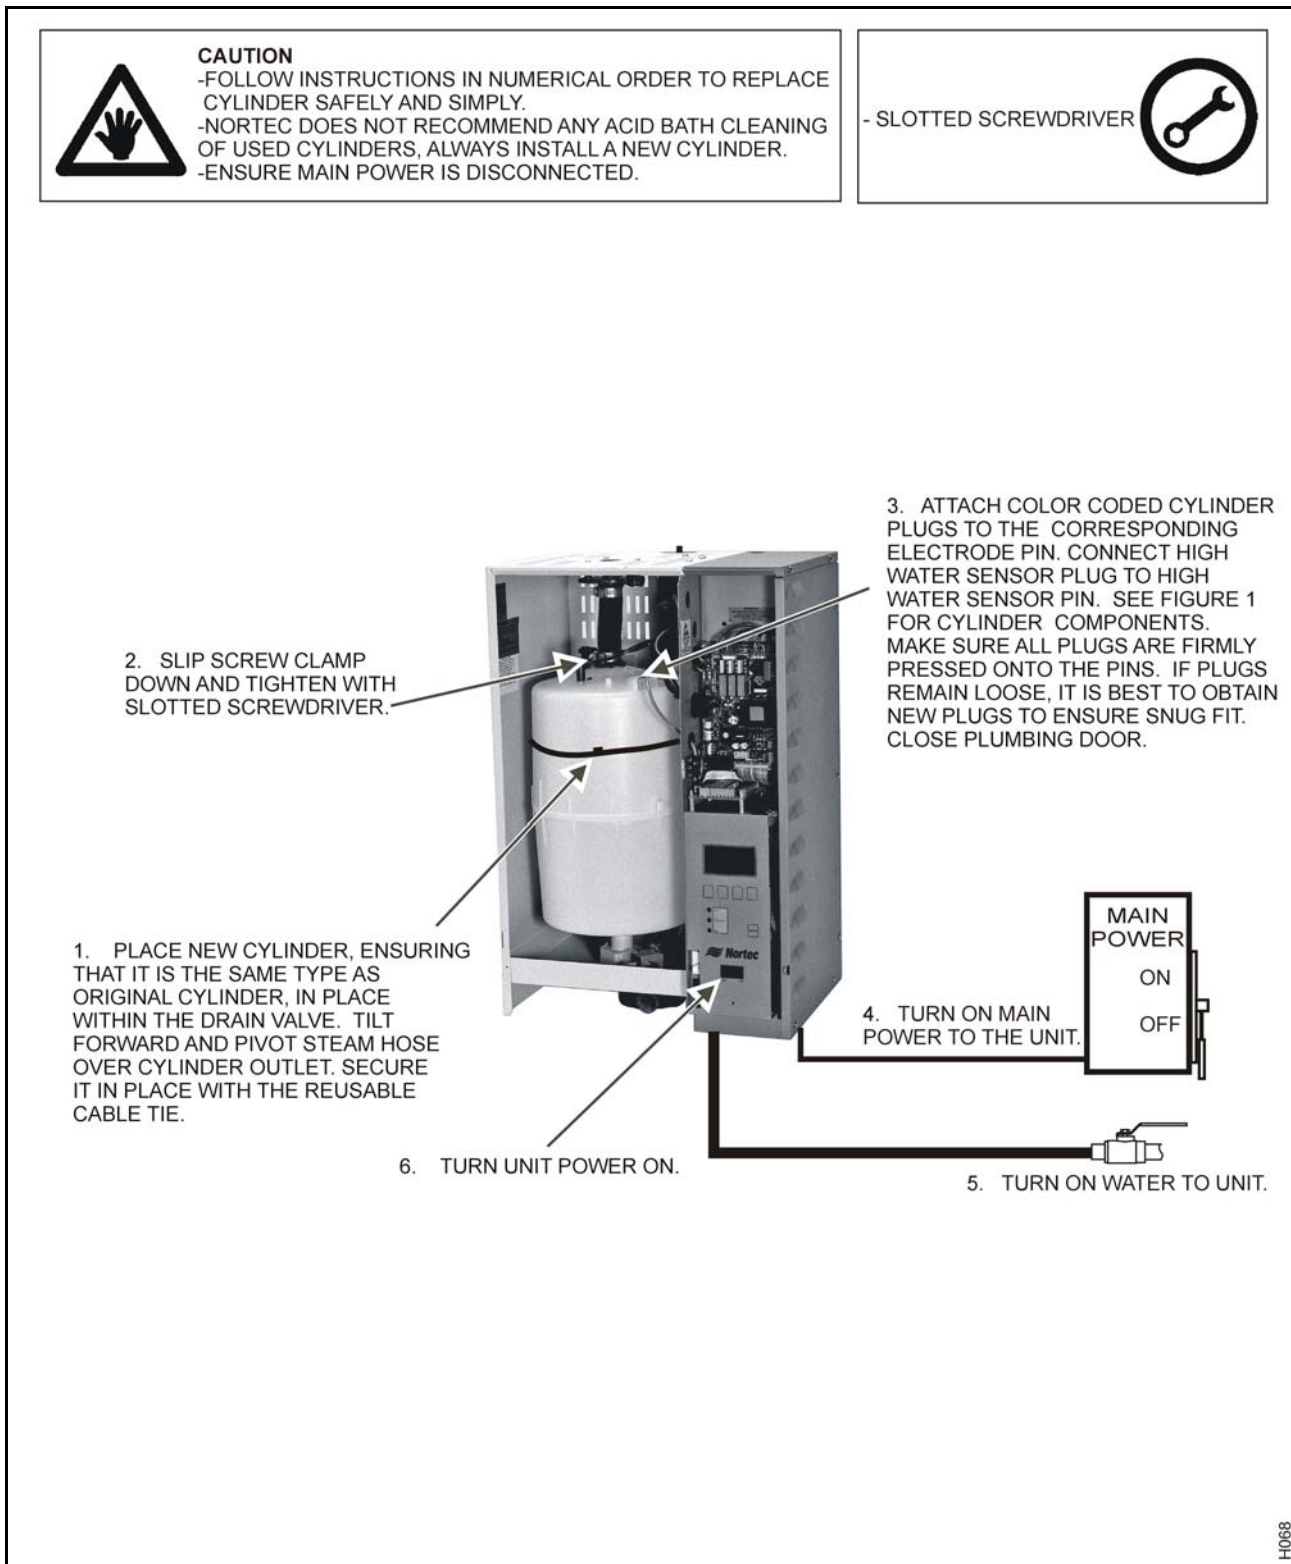

Figure 4. Cylinder Replacement Procedure
(1) Consult Figure 4 to install the replacement cylinder.